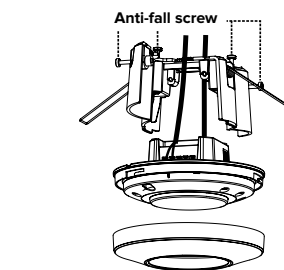

FIG. 9
3. Connect the wiring to the sensor and then screw the housing with clamping springs, by means of the two anti-fall screws, on the sensor housing (FIG. 9).